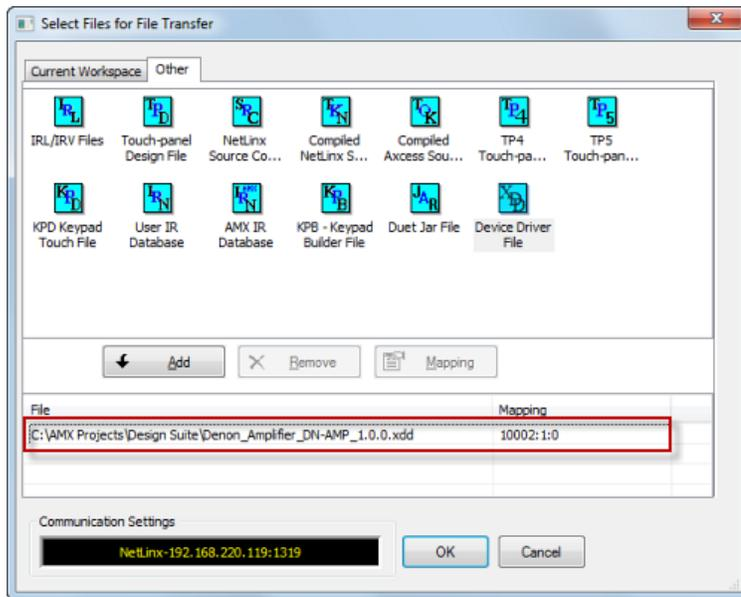

FIG. 114 Select Files for File Transfer dialog (Other tab) - XDD file indicated in the Files to Transfer list
6. Enter the Device Mapping information for the XDD file and click **OK** to return to the *Select Files for File Transfer* dialog (*Other* tab). The selected XDD file is now indicated in the *Files to transfer* list (FIG. 114):